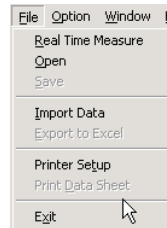

Figure 6
► Menu Introduction as below as show in figure6: